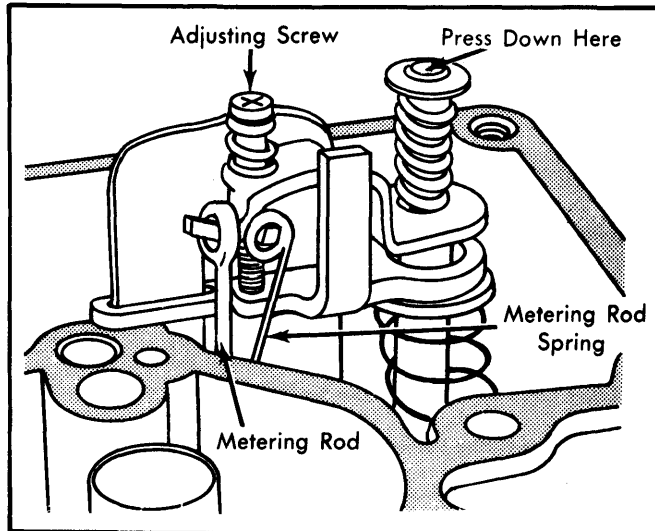

Fig. 3 Adjusting Metering Rod
1) Remove air horn and gasket from carburetor. See Fig. 3.